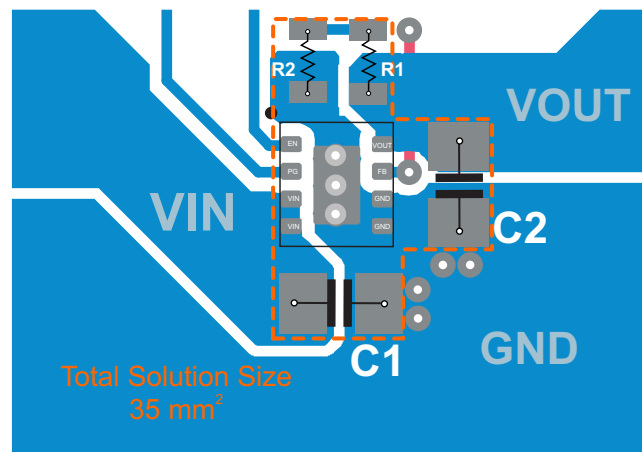

图 30. TPS82084/5 PCB Layout
- Refer to Figure 30 for an example of component placement, routing and thermal design.